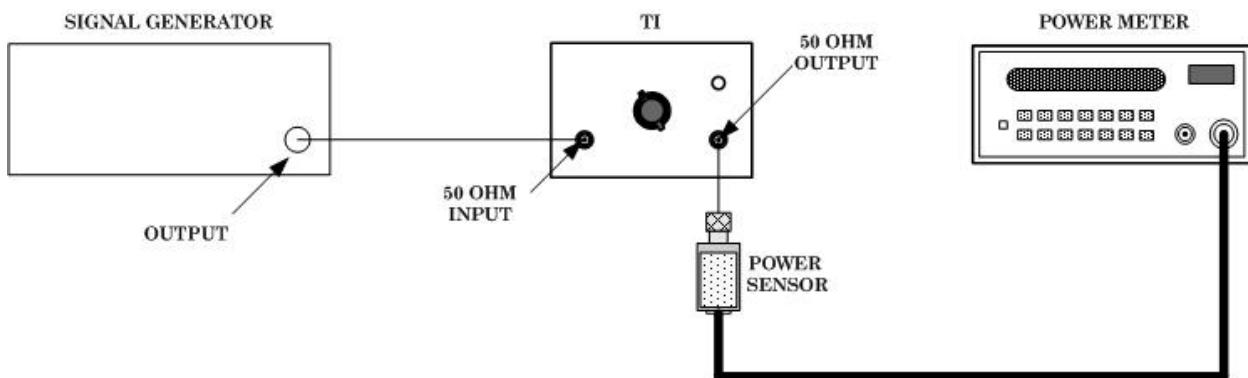

Figure 3. High Frequency Response Setup.
(8) Set signal generator output frequency to 500 kHz and adjust output amplitude for a power meter indication of 0.0 dBm.
(9) Set reference on power meter.
(10) Set signal generator for output frequencies of 5, 10, 50, 100, and 150 MHz and record power meter deviations at each frequency.
(11) Set signal generator output to minimum and disconnect power sensor from signal generator.
(12) Connect equipment as shown in figure 3.